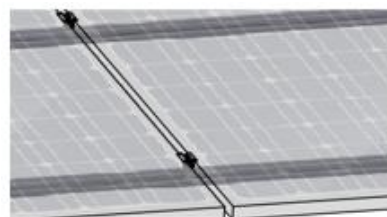

Fig 4.3.1D Positioning second module
- IV. Place second module next to first module and secure using middle clamp, do not tighten [Fig 4.3.1D].